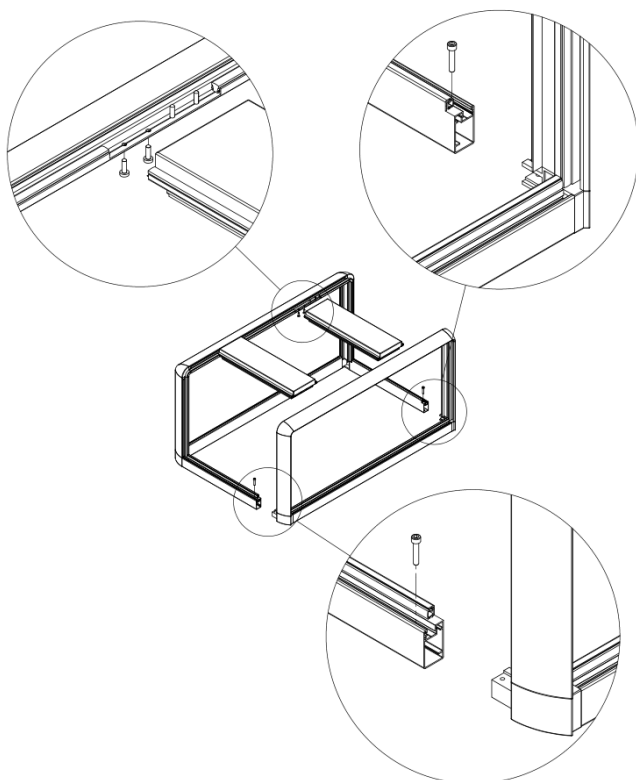

Figure 21: exploded view sound shield W-SQ Pro 15 & 18
- 2 The sound shield can be disassembled according to exploded view below (figure 21).